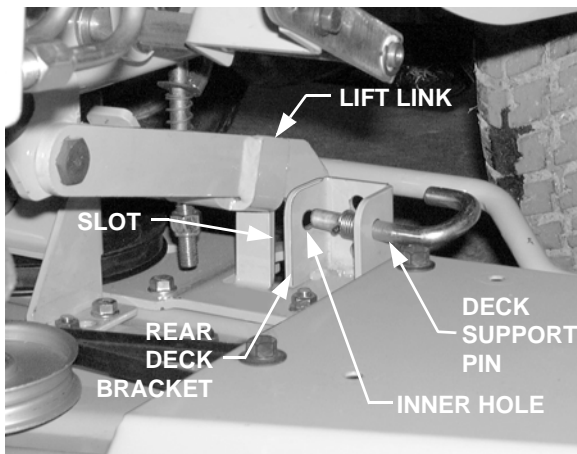

Figure 14
9. Guide the LH and RH lift links into the slots of the rear deck brackets and release the deck support pins by aligning with the inner holes of the deck brackets (See Figure 14).
NOTE: The handle of the support pins should be positioned to the rear of the deck brackets as shown in Figure 14.